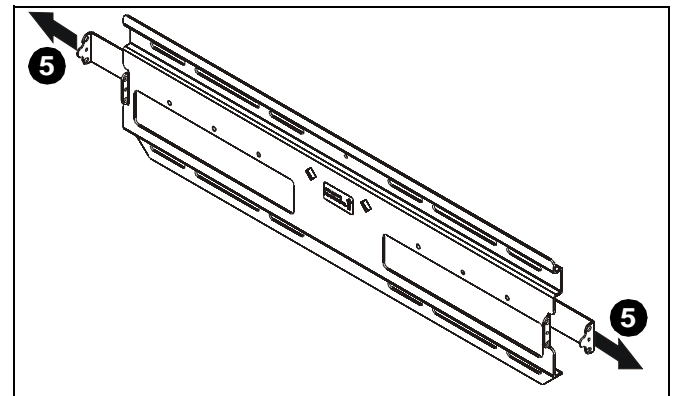

Figure 3
5. Slide the latches out on the wall mount in preparation for installing display. (See Figure 3)